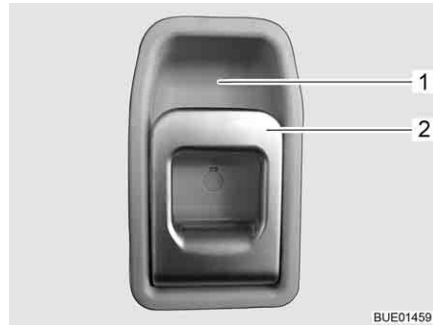

Fig. 38 Door lock of conversion door, inside
- Pull on the handle (Fig. 38,2). The door lock is unlatched.
- Press the upper part of the handle (Fig. 38,2) in the direction of the recessed handle (Fig. 38,1).